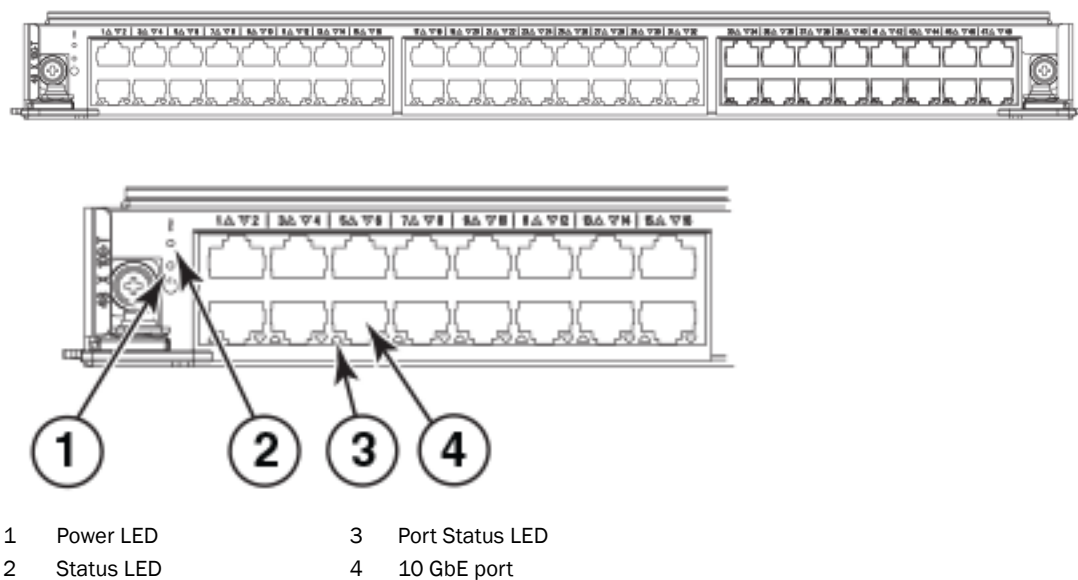

FIGURE 13 48x10G-T line card (full view and close-up)
- Figure 13 illustrates the 48x10G-T line card.